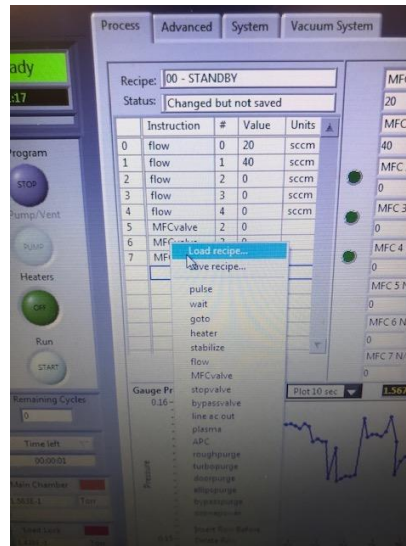

Figure 7: Right click in recipe area to access drop down menu
9.6.2. Right click in the white field, and select “load recipe”. **Figure 7.**